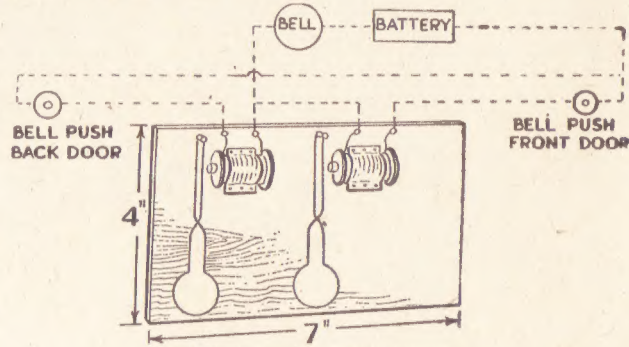
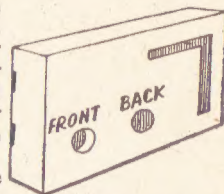

Fig. 5—Complete wiring diagram
Fig. 6—A cover
In Fig. 4 we have an easily made box jig for cutting off deadeyes of both types, made by hand from dowel rod. For drilling deadeyes the small jig in Fig. 6 can be made; this consists of two pieces of plywood, cut square and of the same thickness of the deadeyes.
The complete wiring is shown in Fig. 5. If desired, a mains transformer can be used instead of a battery. A suitable cover for the unit is shown in Fig. 6 and this can be made to hinge onto the base or to slip tightly over it. (285)